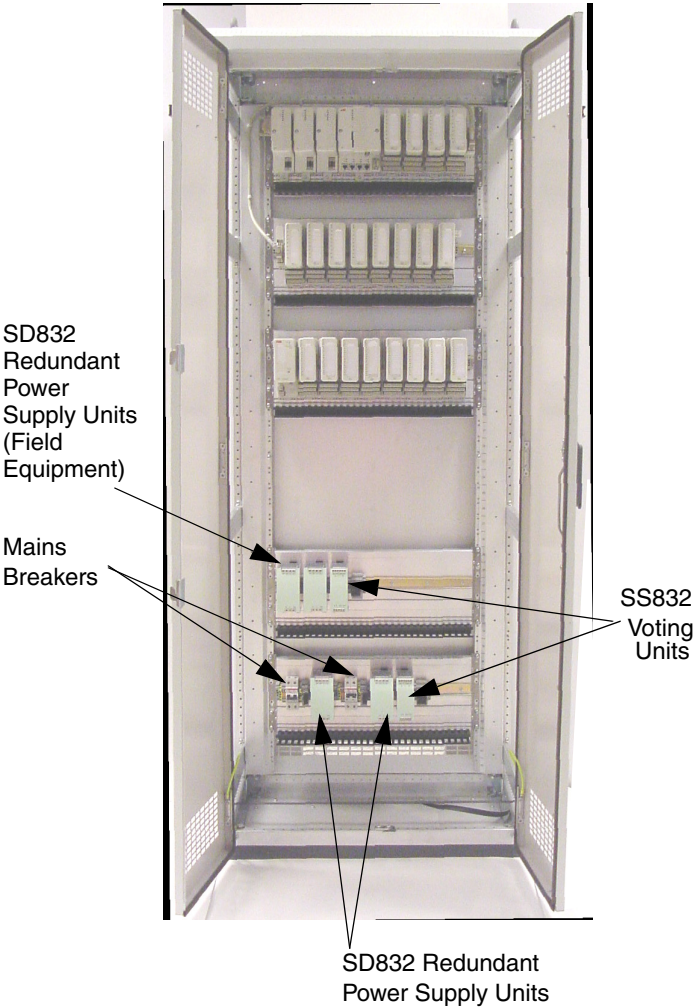

Figure 53. Floor Mounted Cabinet - Unit Arrangement (Redundant PSU)
- Figure 53 on page 118, Floor Mounted Cabinet - Unit Arrangement (Redundant PSU)